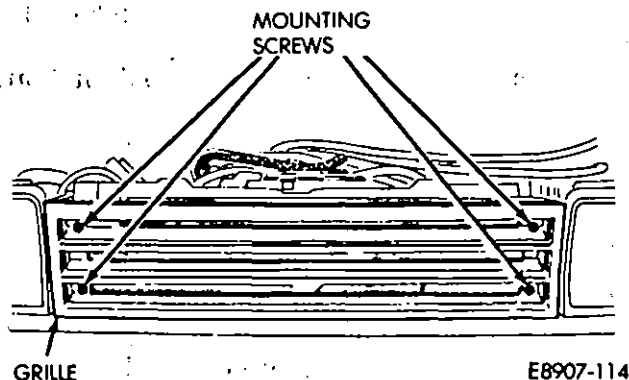

Fig. 7—Grille Removal/Installation
(6) Remove front grille mounting screws (Fig. 7). Remove grille.
(3) Install grille (Fig. 7). Tighten grille mounting screws.